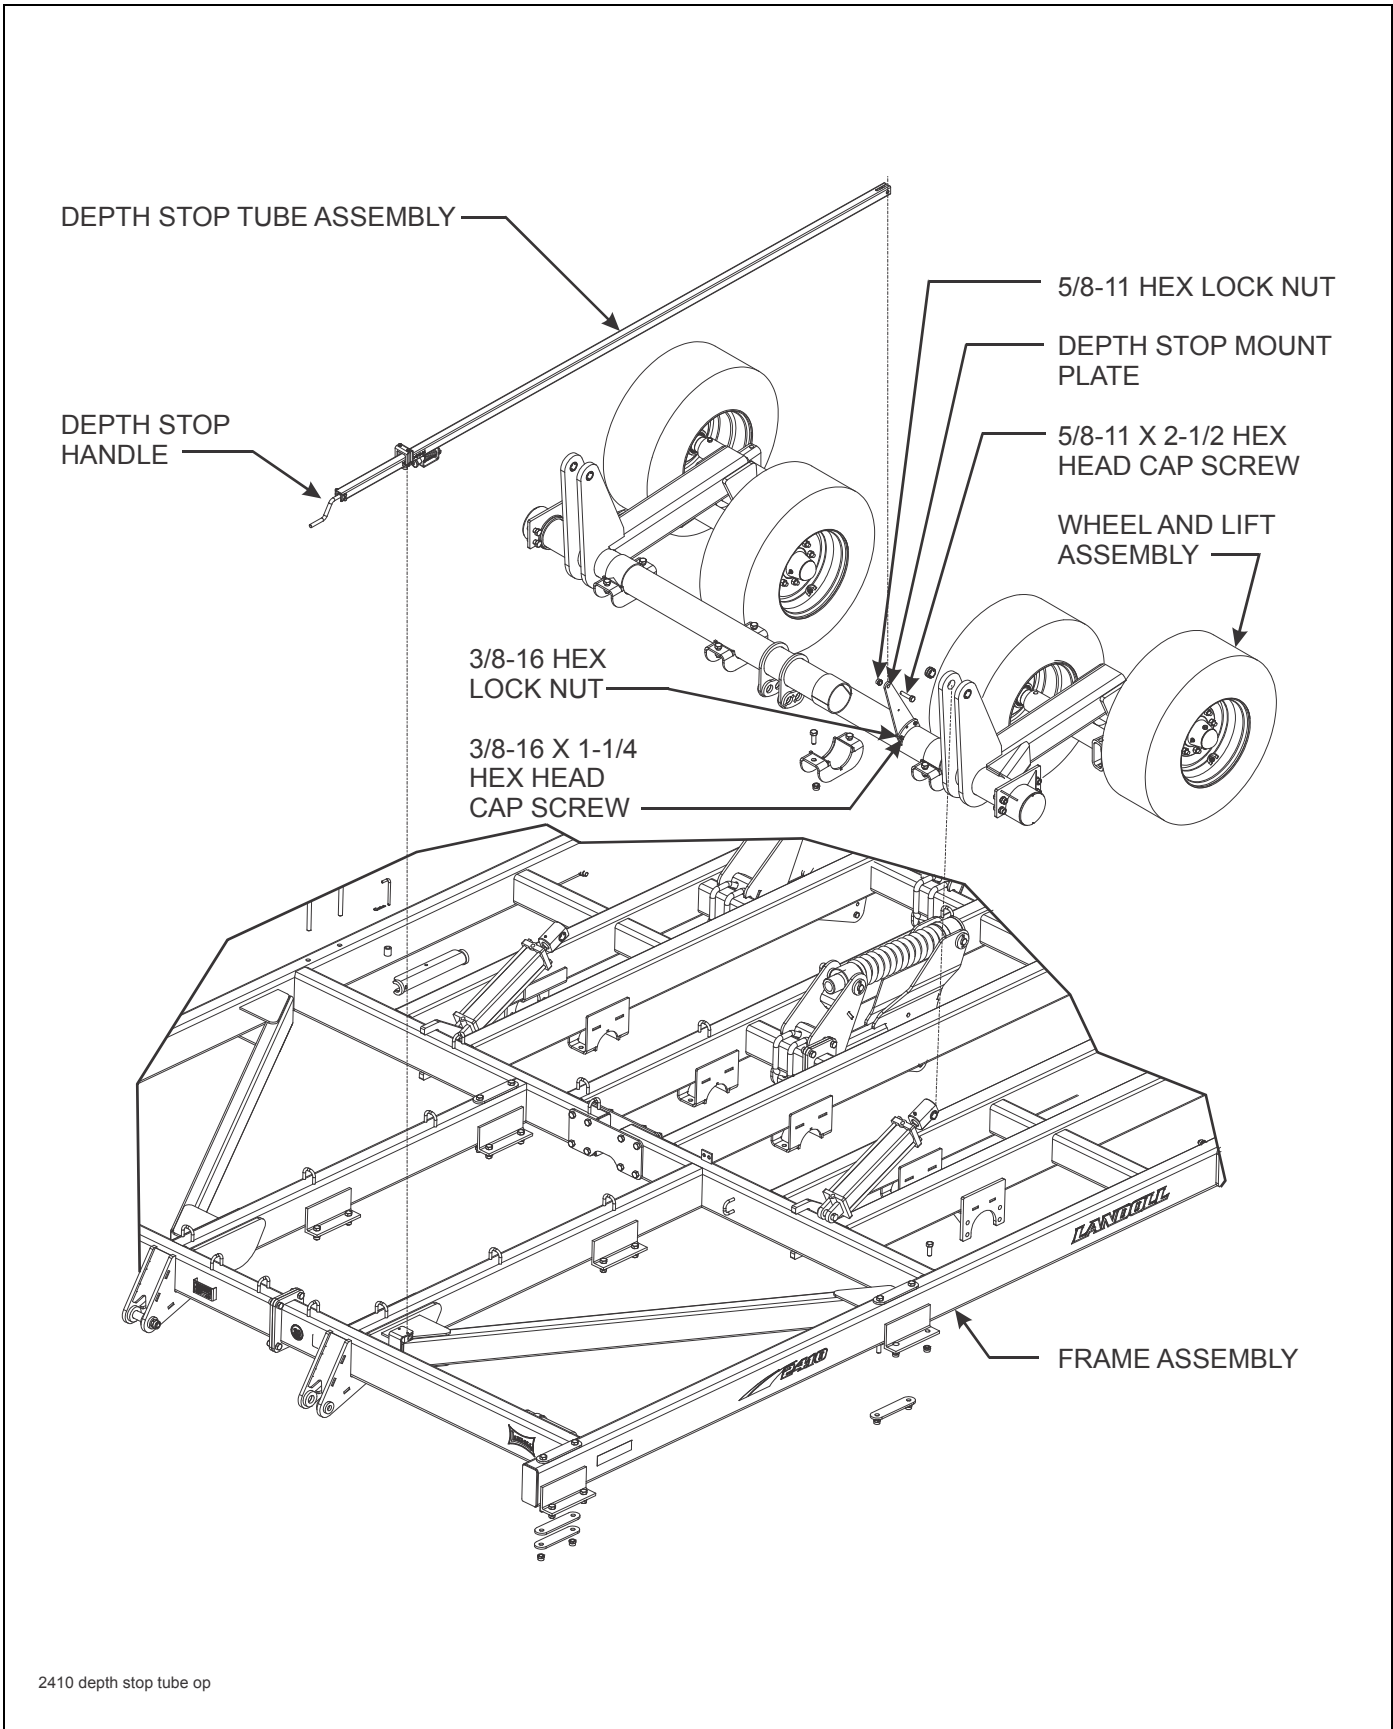

Figure 3-4: Depth Stop Assembly Installation
2. Lay the depth stop tube assembly on top of the center frame. Insert a 5/8-11 x 2-1/2 hex head cap screw in the rear hole of the tube assembly from the left side (**See Figure 3-4.**) Insert the screw through the depth stop mounting plate on the center lift and secure with a 5/8-11 hex lock nut.